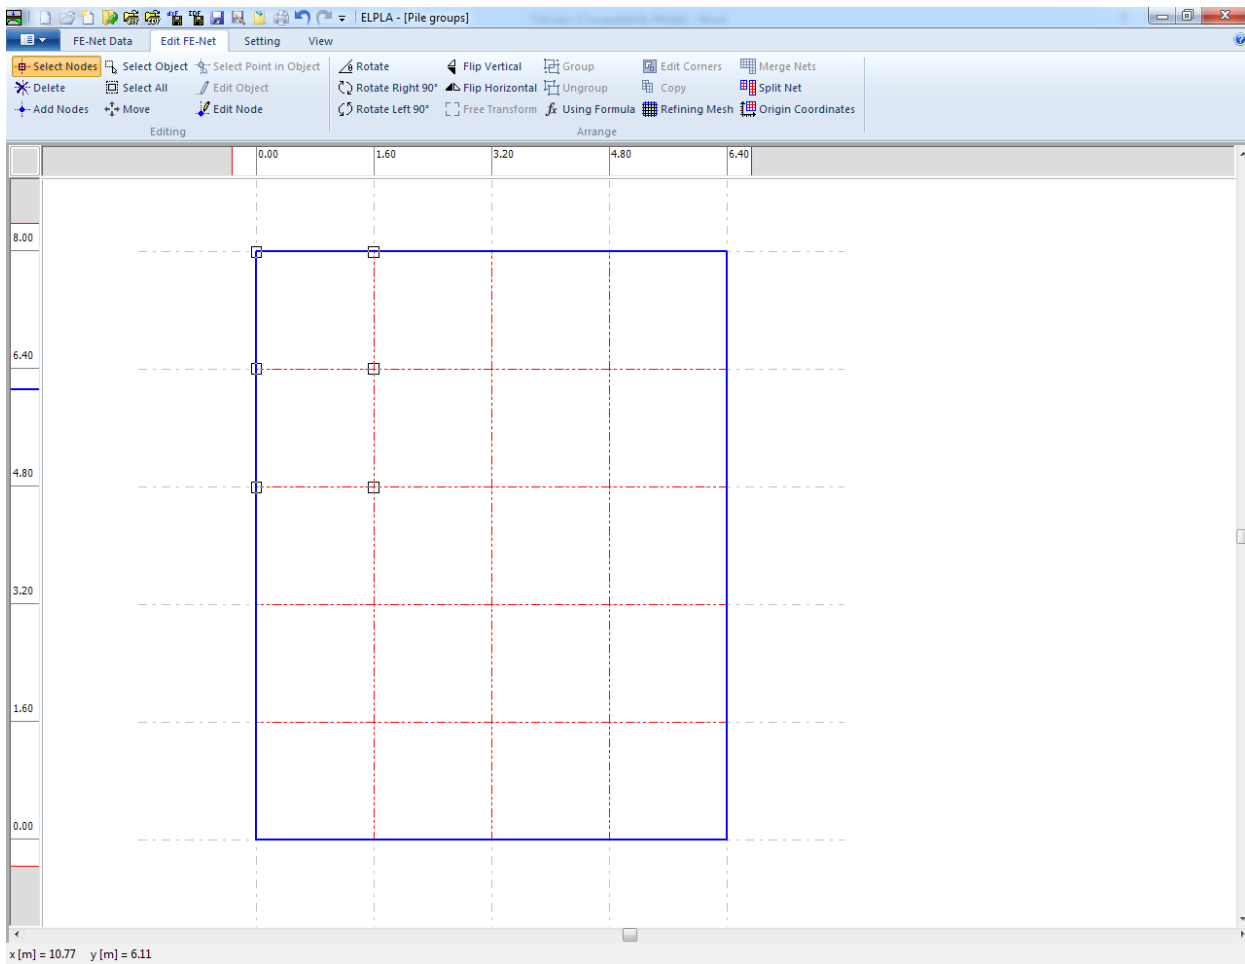
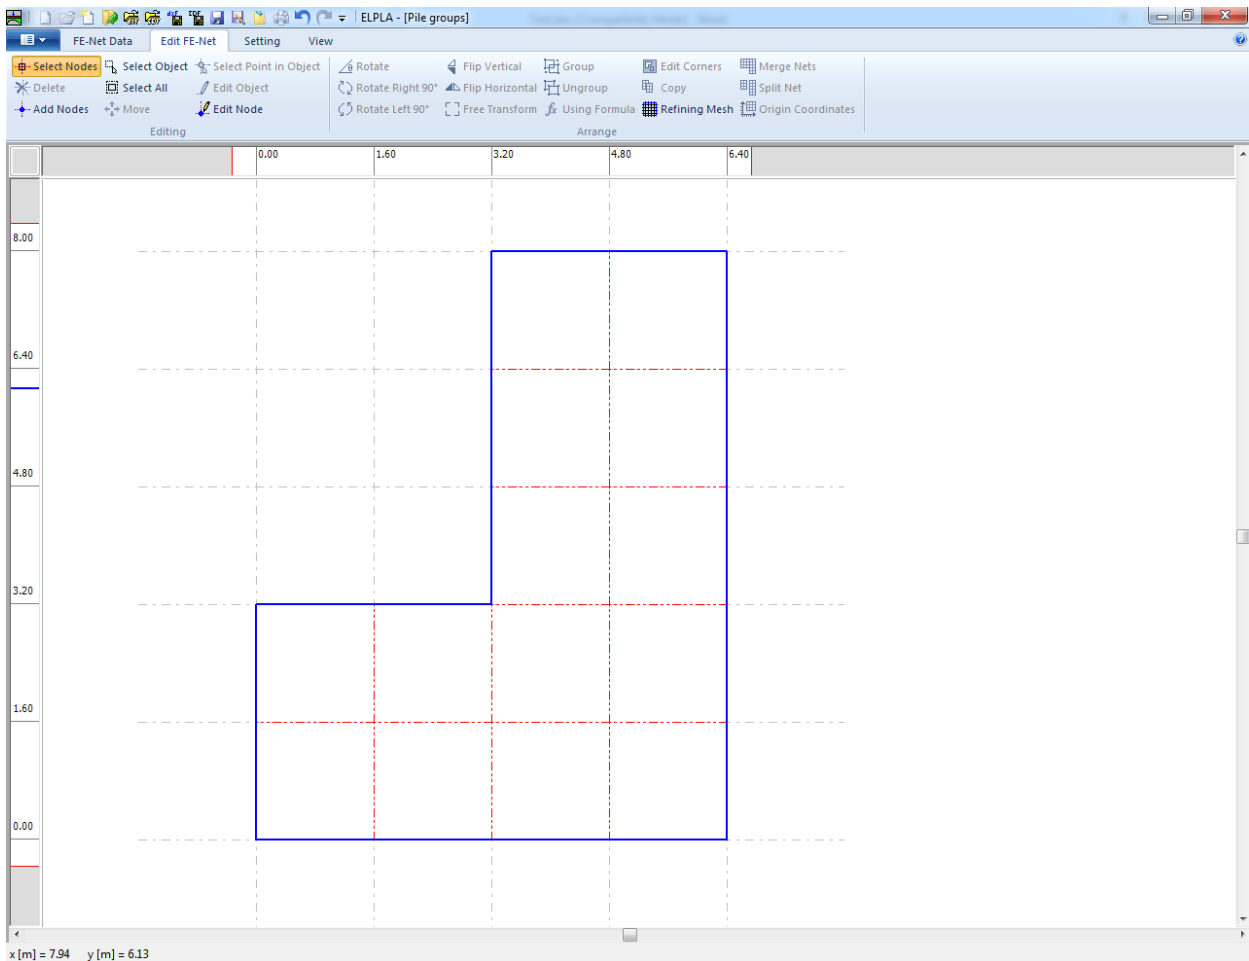

Figure 11.12 Generated FE-Net after selecting the unnecessary nodes
Figure 11.13 Final FE-Net after deleting the unnecessary nodes
To select the unnecessary nodes that are required to be removed from the net, first choose "Select Nodes" command from "Edit FE-Net" menu. When "Select Nodes" command is chosen, the cursor will change from an arrow to a cross hair. The command "Delete" in "Edit FE-Net" menu will be enabled, indicating the mode in which is being operated. Next, select the required nodes by clicking on each node individually or selecting a group of nodes as shown in Figure 11.12. To remove the selected nodes, choose "Delete" command from "Edit FE-Net" menu. The action of this command is indicated in Figure 11.13.
- Choose "Save" command from "File" menu in Figure 11.13 to save the data of the imaginary net.
- Choose "Close" command from "File" menu in Figure 11.13 to close the "FE-Net" Window and to return to *ELPLA* main window.